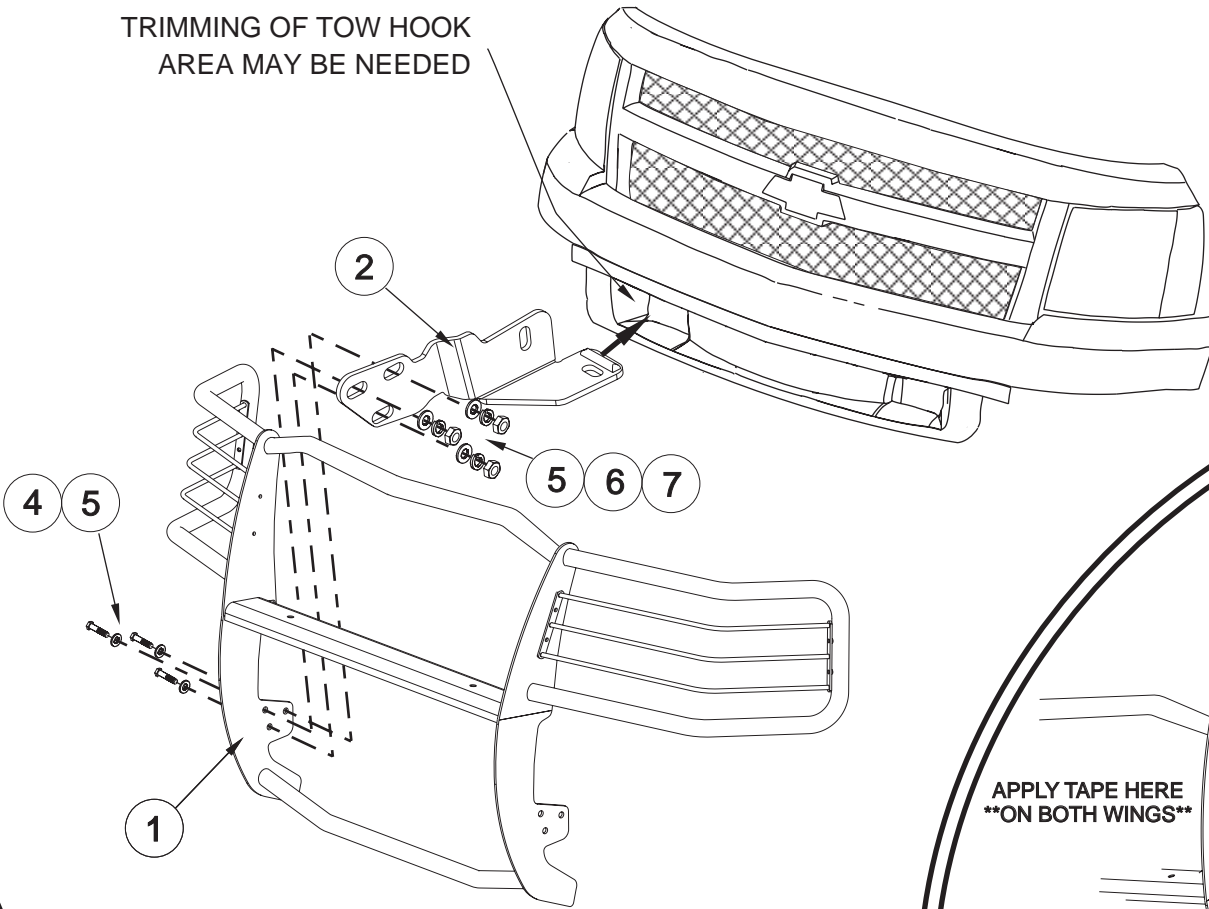

FIGURE 3
- STEP 4. Attach Sportsman to brackets using 12MM fasteners. **SEE FIGURE 3.** Center and level Sportsman on vehicle and tighten all fasteners.